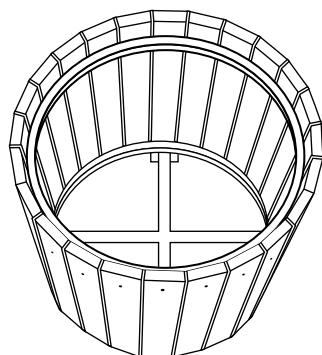

Figure 4
- Using the same directions listed in steps 2, 3 and 4, line up the top ring with the resinwood slats and repeat the process until all resinwood slats have been attached to the top ring. You may now tighten all bolts, remembering to ensure can is put together evenly. (See Figure 4)